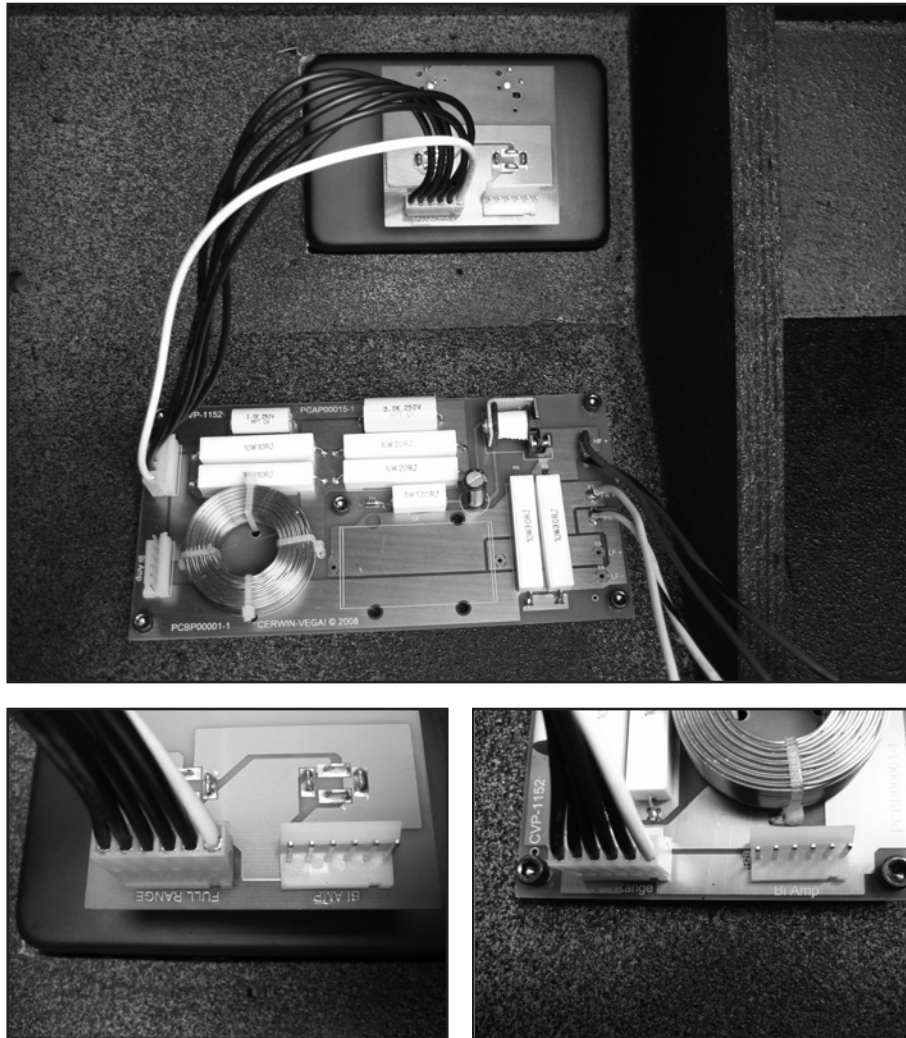

Figure 1, Full Range Mode
2. Move the wire harness from "FULL RANGE" to "BI AMP" on the input circuit board and the crossover circuit board. Please check (Figure 1, Full Range Mode), displayed on the next page.